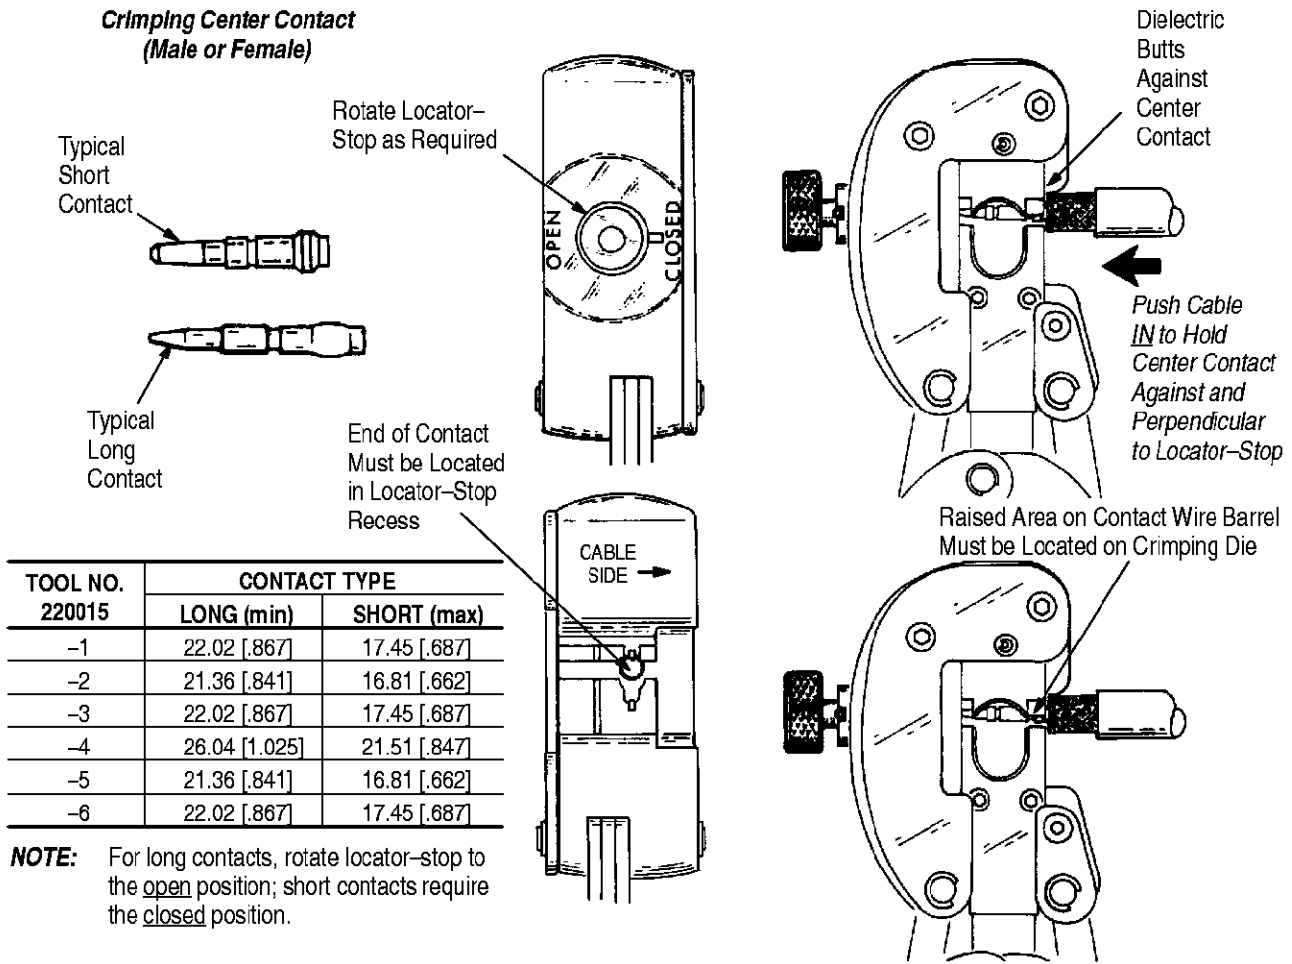

Figure 2
Refer to Figure 2 and proceed as follows:
1. Determine contact type (long or short) from the dimensions provided in Figure 2. Rotate locator/stop by turning adjustment cap to OPEN position for *long-type* contacts, or CLOSED position for *short-type* contacts.
2. Insert conductor into contact wire barrel until contact butts against cable dielectric, and place contact in tool head as shown in Figure 2.